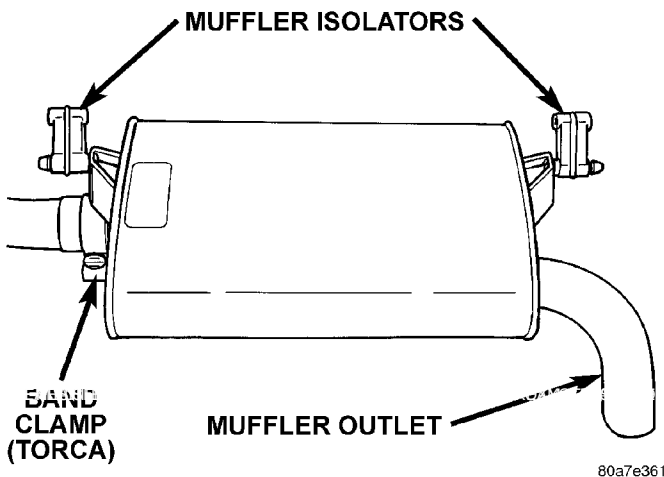
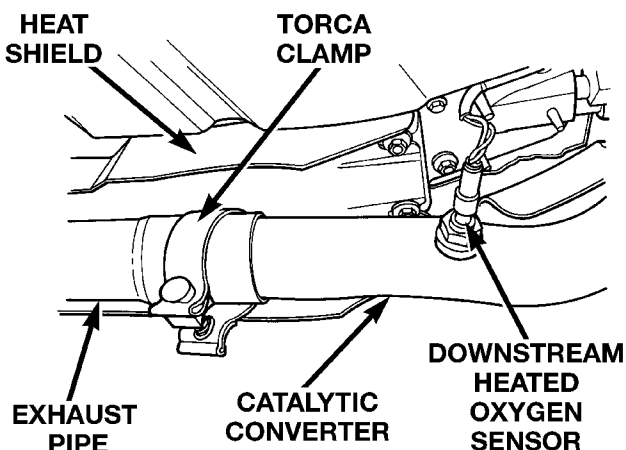
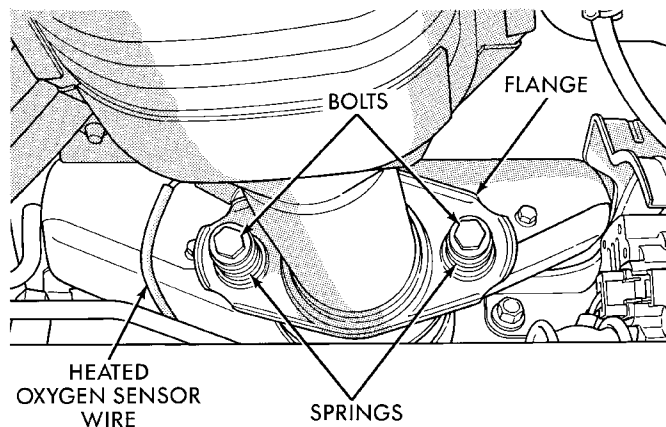

Fig. 6 Exhaust Pipe and Muffler Support Insulators
Fig. 7 Catalytic Converter to Exhaust Pipe Connection
Fig. 8 Catalytic Converter to Exhaust Manifold Connection
(2) Loosen band clamp and remove support insulators at muffler (Fig. 6). Remove muffler from exhaust pipe.
(3) Disconnect downstream heated oxygen sensor from the catalytic converter pipe.
(4) Remove clamp at the catalytic converter to exhaust pipe slip joint (Fig. 7). Separate at slip joint.
(5) When removing exhaust pipe, raise rear of vehicle to relieve body weight from rear suspension to provide clearance between pipe and lateral arms.
(6) Remove catalytic converter to exhaust manifold attaching bolts (Fig. 8).
(7) Clean ends of pipes and/or muffler to assure mating of all parts. Discard broken or worn insulators, rusted clamps, supports and attaching parts.
- (1) Assemble catalytic convertor to exhaust manifold ball joint connection (Fig. 8).
- (2) Assemble exhaust pipe to catalytic convertor and the support to the underbody
- (3) Install the muffler to exhaust pipe and the supports to the underbody.
- (4) Working from the front of system;
- (5) Align and tighten the catalytic convertor to exhaust manifold ball joint bolts (Fig. 8).